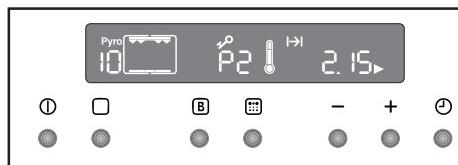

Fig. 23
- After some time, the door lock will be activated and the related symbol  will be displayed (Fig. 23).